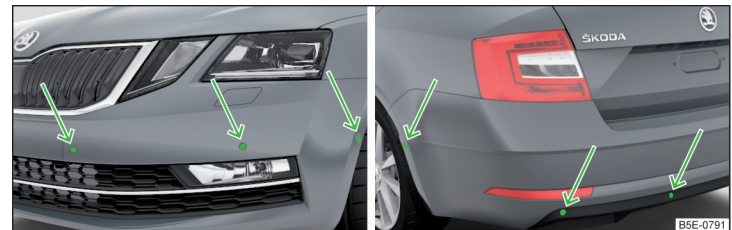

Fig. 253 Installation location of the sensors on the left side of the vehicle: front/rear
- Keep the system sensors » Fig. 253 on page 215 clean, snow- and ice-free and do not cover with any objects of any kind, otherwise the system functioning may be impaired.
The system uses ultrasound waves to calculate the distance between the bumper and an obstacle. The ultrasonic sensors are, depending on vehicle equipment, located in the back or in the front bumper » Fig. 253.